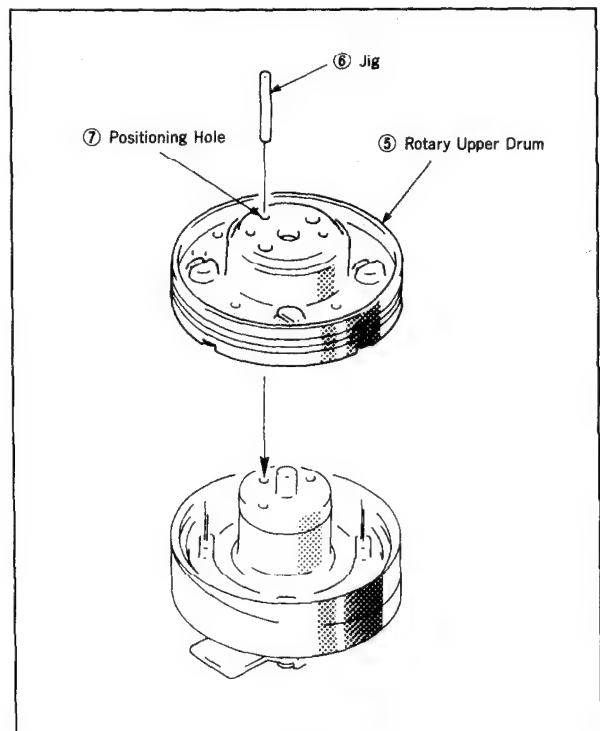

Fig. 30
- 1) Wipe clean the flange surface and the rotary upper drum ⑤ surface that makes contact with it, and confirm that they are free from dirt and scratches.
- 2) Insert the jig ⑥ (Ref. No. J-8) into the drum positioning hole, then set then set the rotary upper drum ⑤ by passing the jig through its positioning hole ⑦. (Fig.30)